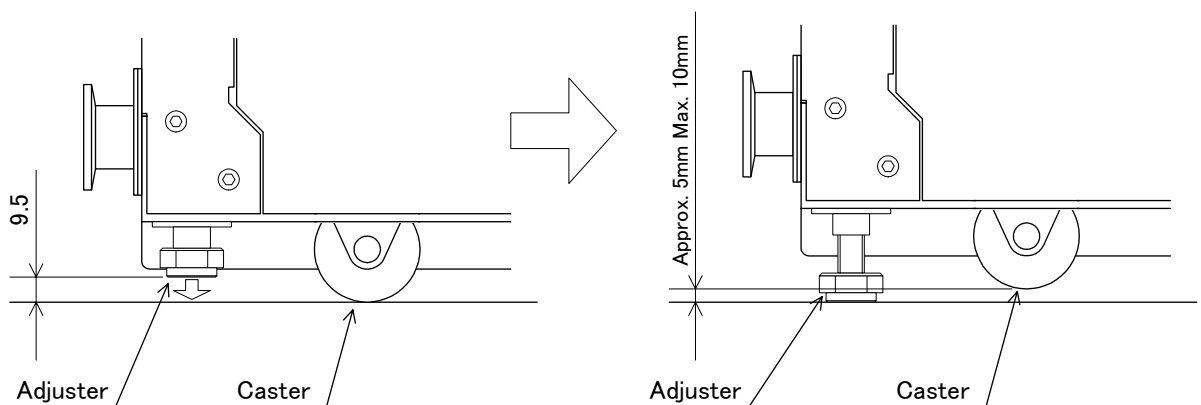

Fig.4.2 Procedure for Adjusting Adjuster
- * When fixing the pump, adjust the adjuster so that the 4 casters may float above the floor (approx. 5mm or 10 mm max.) (Fig. 4.2)